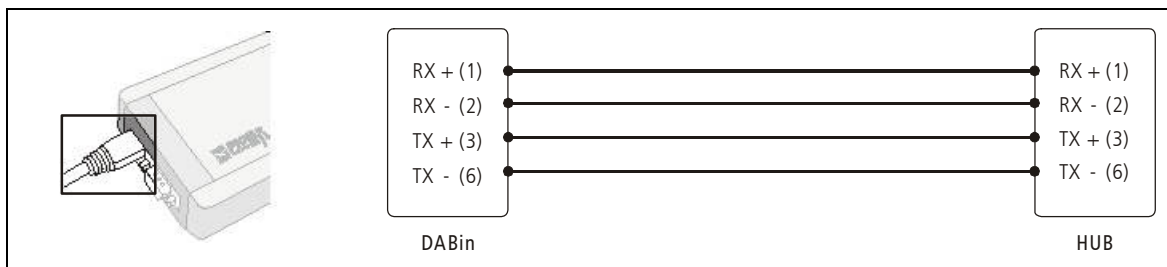

Figure 4 - Connecting DABin to an Ethernet Network
Figure 4 shows the connector RJ-45 Ethernet 10BaseT (1) for Ethernet network connection. It can be connected to a LAN through a Hub or Switch, or to a PC directly using a crossover cable.